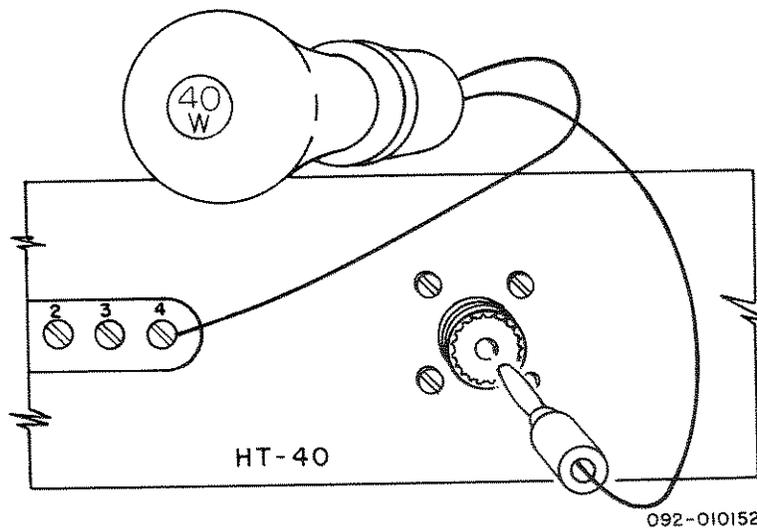

Figure 28. Light Bulb Used as Dummy Load.
1. 50 ohm non-inductive dummy load or a 40 watt light bulb (see figure 28).